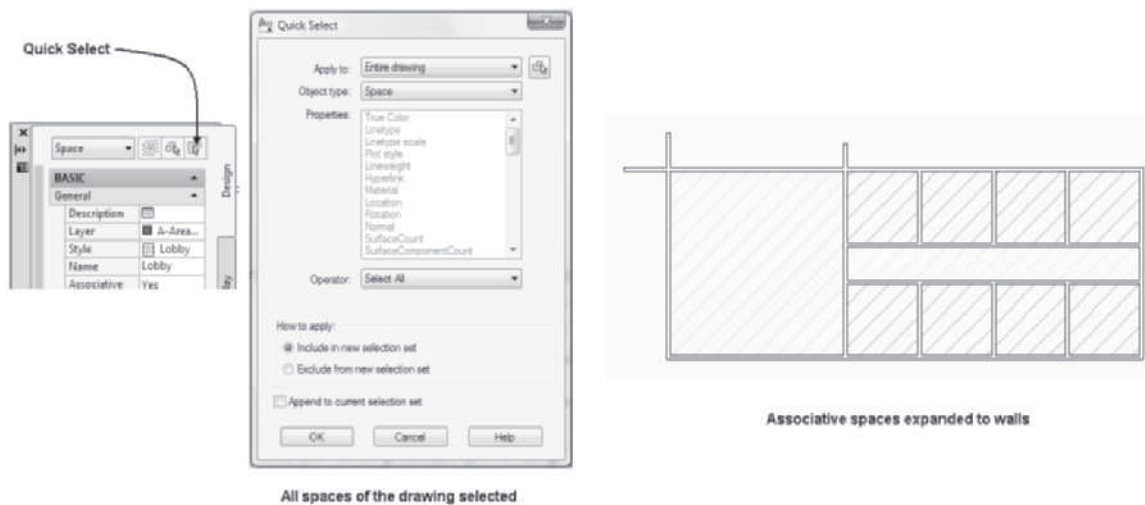

FIGURE 4.30 Spaces resized to fit walls
14. Move the cursor over the perimeter of a space to display the rollover highlight of the space, click and verify that a Space object has been selected in the Properties palette, and choose Quick Select in the Design tab of the Properties palette to open the Quick Select dialog box. Edit Apply to = Entire drawing, Object type = Space, Operator = Select All, check Include in new selection set and Append to current selection set. Click Ok to dismiss the dialog box and display the spaces. Right-click and choose **Make Associative** from the shortcut menu. The spaces are adjusted to the wall locations as shown in Figure 4.30.